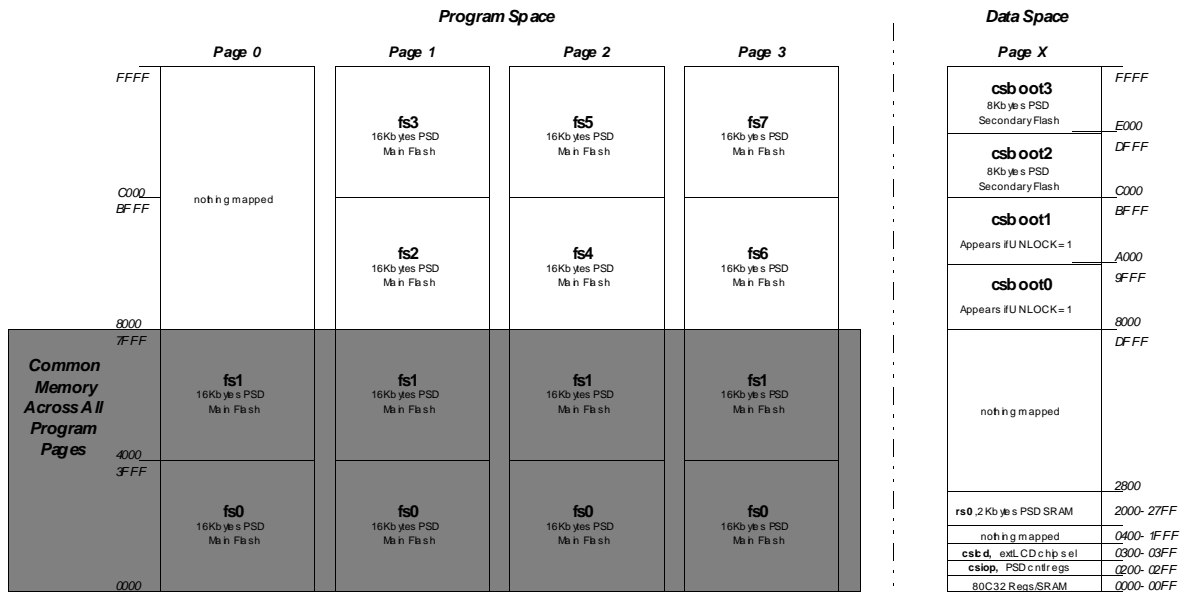

Figure 11 – Memory Map just after 80C32 writes 0C hex to PSD VM register.
- Fig 11: Secondary flash memory has moved to Data space because of 0C hex in VM register.
- Figure 11 shows the final memory map. At this point, the 80C32 can download new IAP loader code to csboot0/csboot1 if needed. Another one of the eight PSD page register bits is used for logic in this design, named unlock. The 80C32 must first set the unlock bit to logic one before updating IAP loader code. All page register bits are cleared to zero at power-up or at reset.